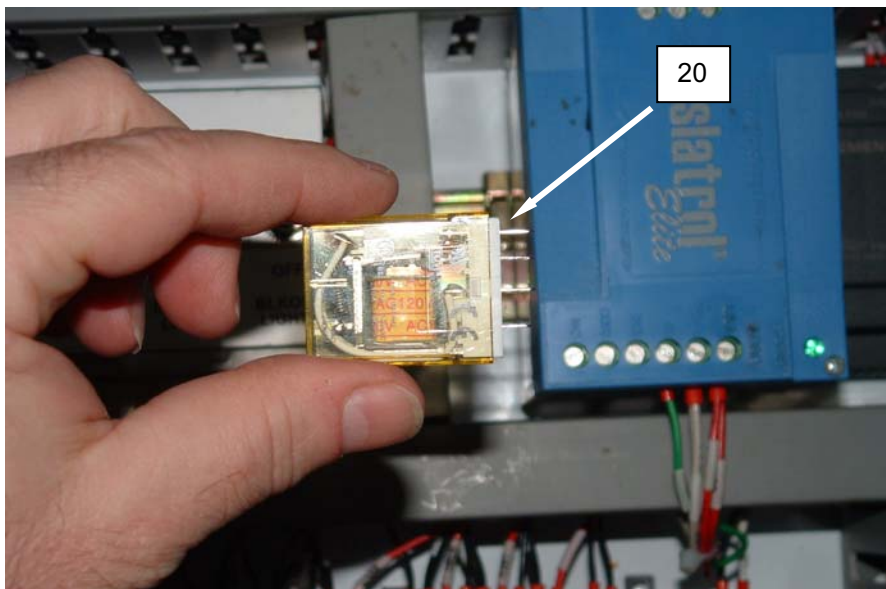

Figure 12. Replace a Control Relay.
3. Locate and remove control relay (**Figure 12, Item 20**).
4. Install replacement control relay (**Figure 12, Item 20**). Ensure the replacement relay is firmly seated and securely retained in place by the clamp.